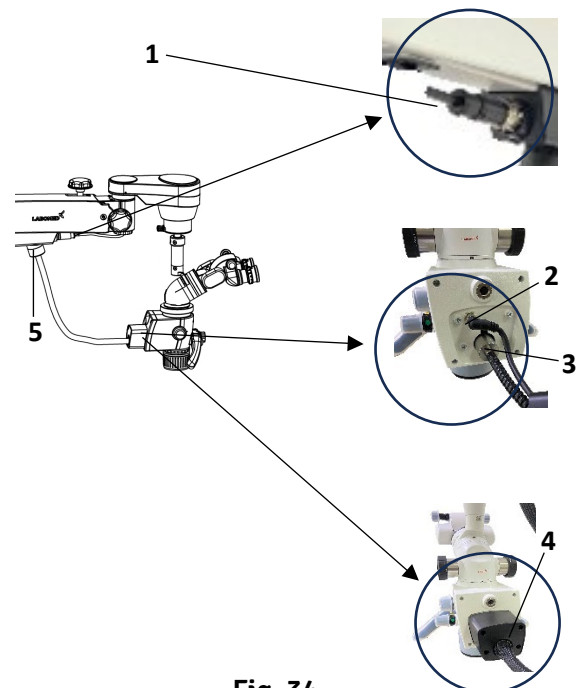

Fig. 34
- b. A wire mesh for Cable routing is Permanently fixed to Suspension arm at point (5). Ref. Fig. 34
- c. Fold and gather wire mesh with back cover and connect the 5 Pin male and female connector (2) for illumination control as per guidance on the label. Then insert the Fibre optic cable into the light guide (3). Ref. Fig. 34
- d. Fix the back cover (4) with screws. Then connect the 4pin male female connector (1) for powering up the ABA (Auto balancing Arm) Electromagnetic clutch. Ref. fig. 34